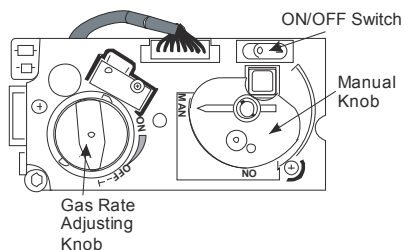

Figure 16
2. Turn the Manual knob clockwise to **MAN** position (see **Figure 16**).